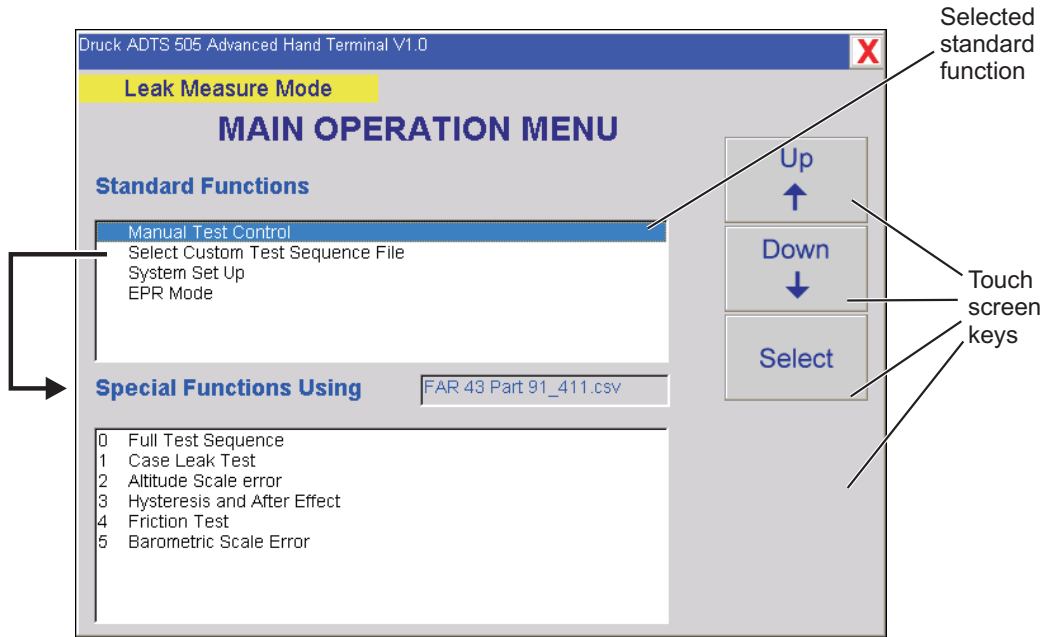

FIGURE 6-6 MAIN MENU SCREEN
- The advanced hand terminal provides a Windows®-based, touch-sensitive colour screen to up-load and down-load user-defined test programs. When connected the system auto-detects the advanced hand terminal and disables the front panel key-pad. The front panel display shows "Remote Hand Terminal Operating" (message/monitor) or the current values and modes of the advanced hand terminal (monitor). The display (Figure 6-6) shows the main operation menu with selections for system set-up, test sequence file screen and manual control screen.